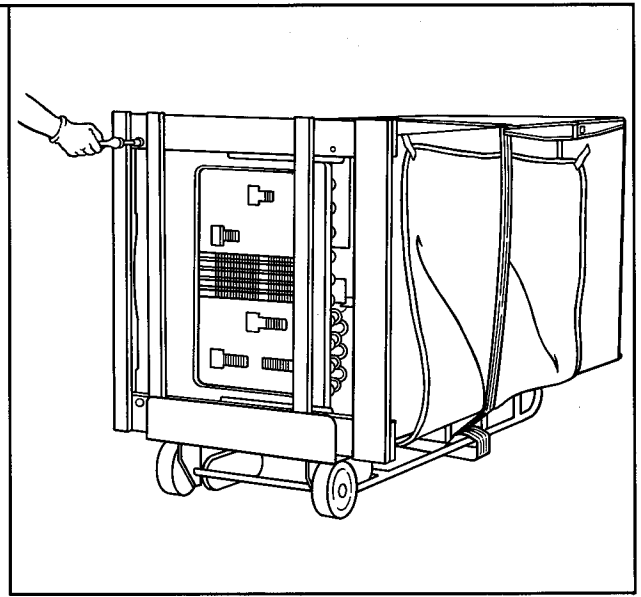

Figure 4
8. Using 7/16" hex head socket/wrench, remove bolts from skid. See Figure 4.